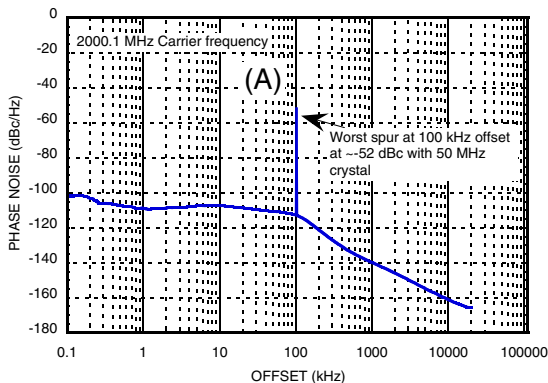
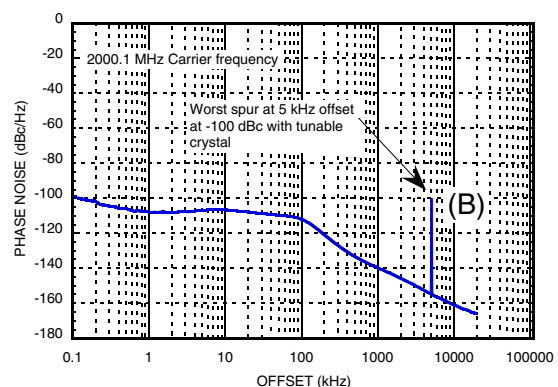
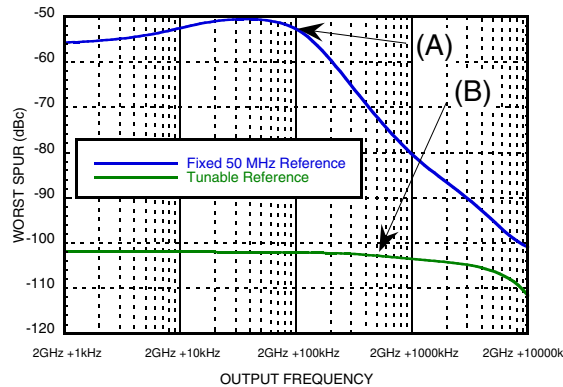

Figure 35. HMC834LP6GE Worst spur at any offset, fixed 50 MHz reference, output frequency = 2000.1 MHz
Figure 36. HMC834LP6GE worst spur at any offset, tunable reference (HMC830LP6GE), output frequency = 2000.1 MHz
Figure 37. Largest observed spurious, at any offset, using a fixed 50 MHz reference source and a tunable reference source.
For example, Figure 35 shows the spectrum of a carrier operating at 2000.1 MHz with a 50 MHz fixed reference. This case is 100 kHz away from an Integer Boundary (50 MHz x 40). Worst case spurious can be observed at 100 kHz offset and about -52 dBc in magnitude.
Figure 36 shows the same HMC834LP6GE PLL VCO operating at the same 2000.1 MHz carrier frequency, using a tunable reference at 47.5 MHz generated by HMC830LP6GE. Worst case spurious in this case can be observed at 5 MHz offset and about -100 dBc in magnitude.
The results of Figure 35 and Figure 36 show that the tunable reference source achieves 50 dB better spurious performance, while maintaining essentially the same phase noise performance.
Many spurious measurements, such as the ones in Figure 35 and Figure 36 can be summarized into a single plot of worst case spurious at any offset vs. carrier frequency as shown in Figure 37. A log frequency display relative to the 2000 MHz fixed reference Integer Boundary was used to emphasize the importance
For example worst case spurious operating at 2000.1 MHz (point (A) in Figure 35 with a fixed 50 MHz reference) is represented by a single point in Figure 37 (point (A)) on the blue curve. Similarly, worst case spurious from Figure 36 with variable reference, operating at 2000.1 MHz is represented by a single point in Figure 37 (point (B)) on the green curve.
The plot in Figure 37 is generated by tuning the carrier frequency away from Integer Boundary and recording the worst case spurious, at any offset, at each operating frequency. Figure 37 shows that the worst case spurious for the 50 MHz fixed reference case, is nearly constant between -51 dBc and -55 dBc when operating with a carrier frequency less than 100 kHz from the Integer Boundary (blue curve). It also shows that the worst case spurious rolls off at about 25 dB/decade relative to 1 loop bandwidth. For example, at an operating frequency of 2001 MHz (equivalent to 10 loop bandwidths offset) worst case spurious is -80 dBc. Similarly, at an operating frequency of 2010 MHz (equivalent to 100 loop bandwidths) worst case spurious is -100 dBc.
In contrast, the green curve of Figure 37 shows that the worst case spurious over the same operating frequency range, when using an HMC830LP6GE tunable reference, is below -100 dBc at all operating frequencies!